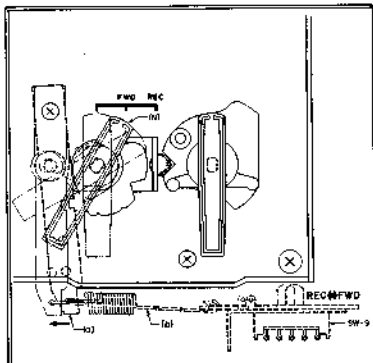

Fig. 9
4. RECORDING/PLAYBACK CHANGING MECHANISM (See Figs. 9, 10)